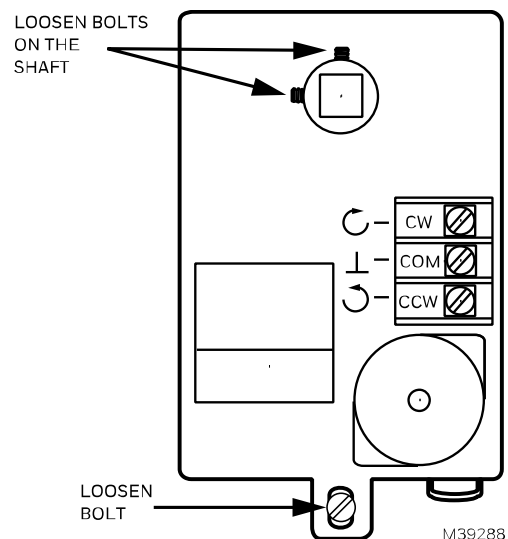

Figure 11. Replacing the Actuator
1. Loosen the allen bolts holding the actuator to the shaft (see Figure 11).